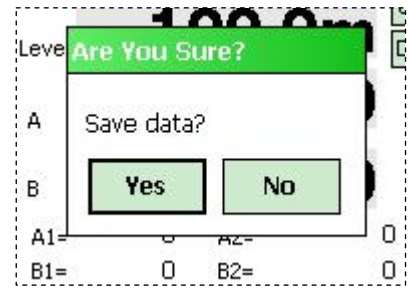

Figure 8 - Save data confirm
- When done taking readings, press Done. You will be given the option to save the reading to a file (see figure 8).
Selecting the "Readings→Exit" option from the main screen forces everything off and ensures a clean start the next time. **This option will cause readings to be lost** if they have not been saved to a file (see section 2.2, figures 8 and 9 for information regarding saving data).